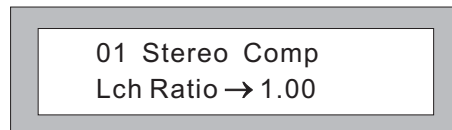

Fig.1
Turn encoder 1 to adjust the compression ratio, and "→" indicates the change of the value (as fig.1). The adjustment range: "1.00~Limit".
5.PROG/VOL -Press it and then turn encoder 4 to select one of 20 different programs ,among which No.1, 2 and 3 programs are preset by factory and can not be changed(as fig.1);Press it again and then turn encoder 4 to adjust the volume of corresponding channel (as fig.10) the adjustment range of the volume:"MUTE~+6dB".